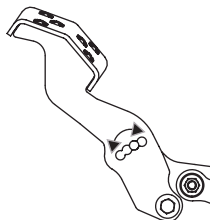

Figure 42
3. Position the pedal to the optimal position based on operator preference. See Figure 42.